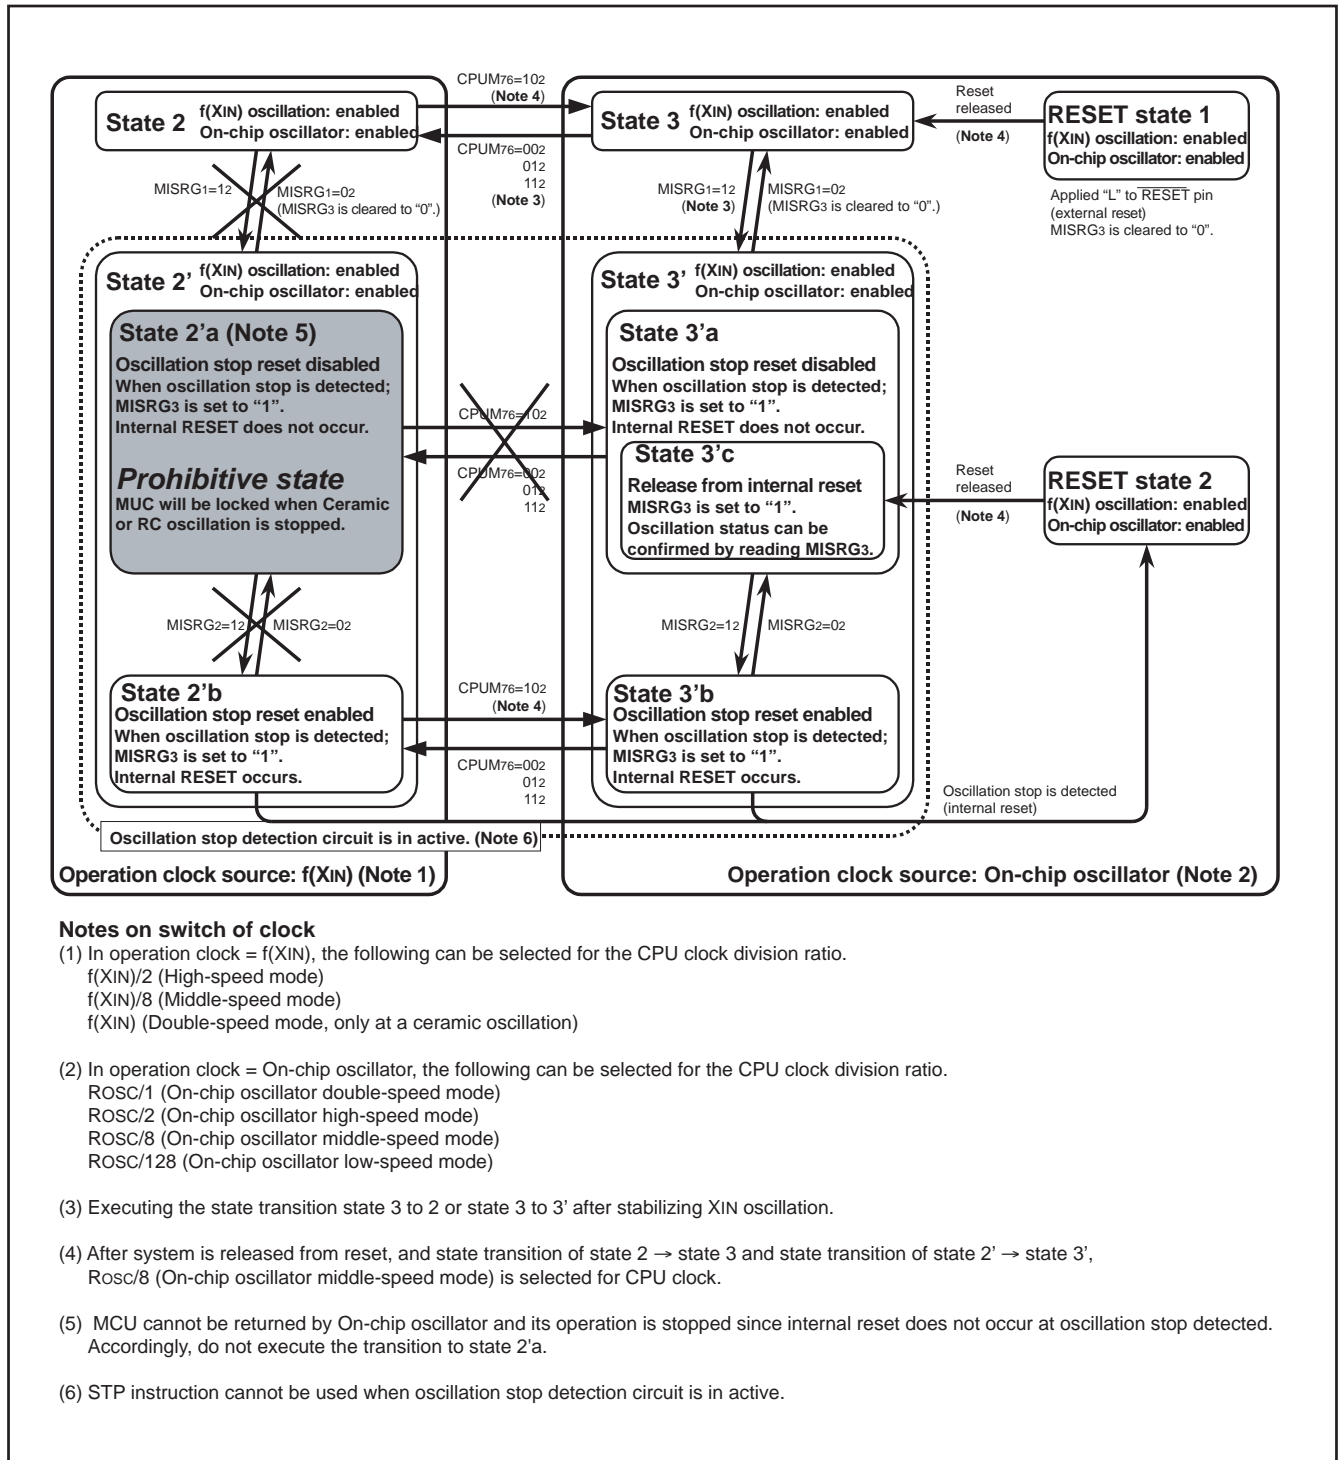

Fig. 86 State transition 2
- (1) Do not execute the transition to "state 2'a" shown in Figure 86 State transition of oscillation stop detection circuit. In this state, no reset is triggered and the MCU is stopped even when the XIN oscillation is stopped.
- (2) After an oscillation stop detection reset, if this reset is enabled while bits Ceramic or RC oscillation stop detection function active and oscillation stop detection status are retained, a reset is triggered again.
- (3) The oscillation stop detection status bit is initialized under the following conditions:
- (4) While the oscillation stop detection function is in active, the oscillation stop detection status bit may set to 1 when the watchdog timer underflow. When an oscillation stop detection reset is triggered, reconfirm that oscillation is stopped.
- (5) The oscillation stop detection circuit is not included in the emulator MCU "M37542RSS".